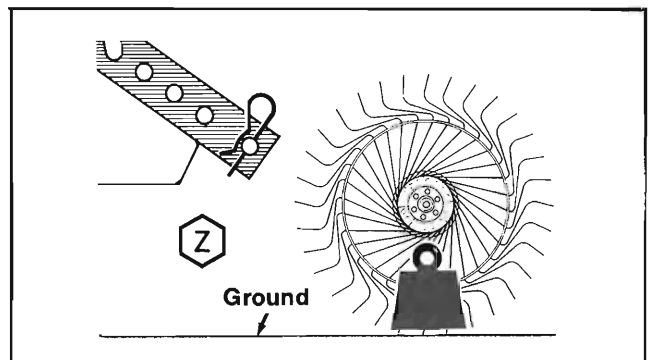
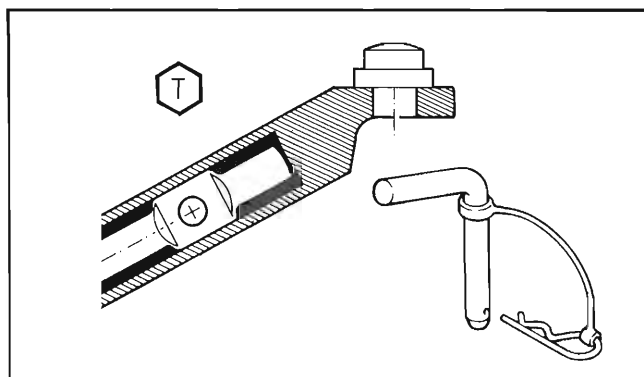
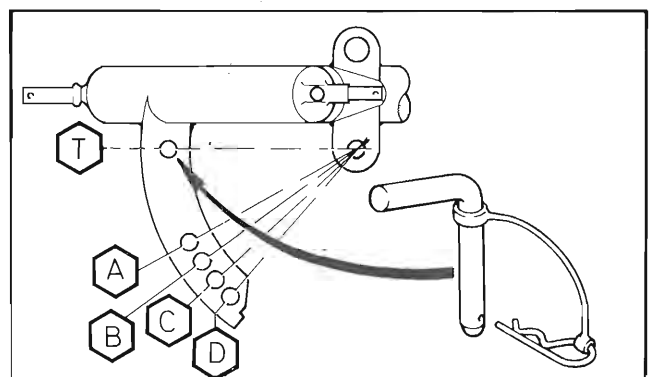

Fig. 14
Fig. 15
Fig. 16
Hole (Z) (Fig. 14) allows a minimum Spring tension and a maximum Finger Wheel pressure. During transport, weight should be taken off the Spring by securing all Telescoping parts with a Locking Pin (Fig. 15). For Rake operation, Telescope **MUST** be released by removing the Locking Pin which then is stored in the Transport hole position of the "width" adjustment (Fig. 16).